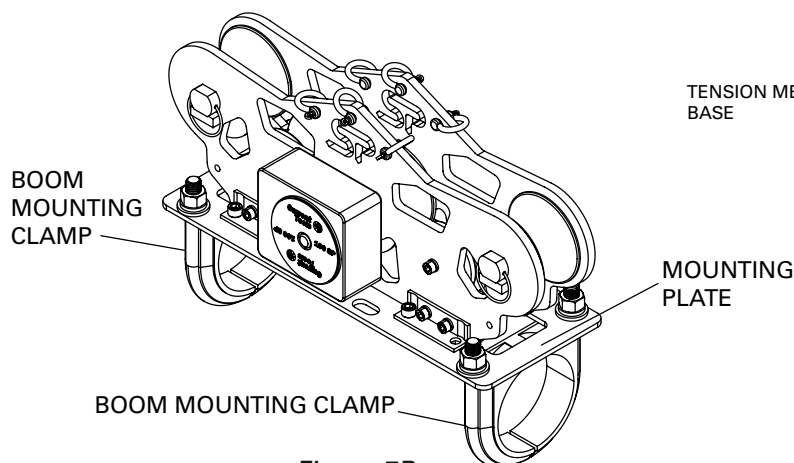

Figure 7B
3. Loosely attach both of the boom mounting clamps to the mounting plate (See Figure 7B).